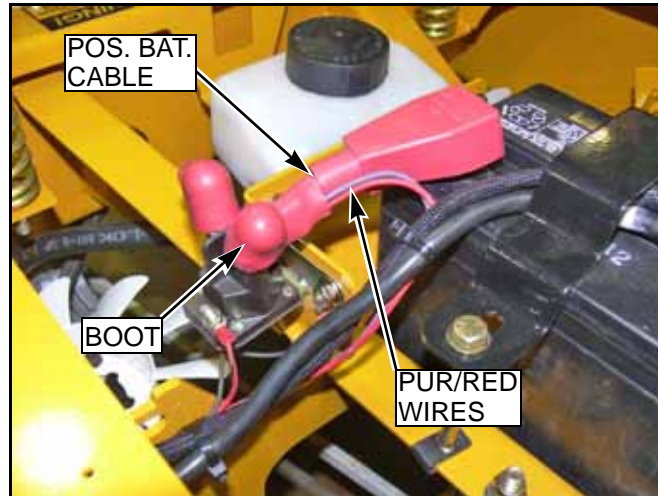

FIG. 1
5. Route item 22 (4" positive battery cable) with the purple and red wires through item 21 (positive battery cable boot) prior to fastening hardware to the solenoid, see Fig. 1.